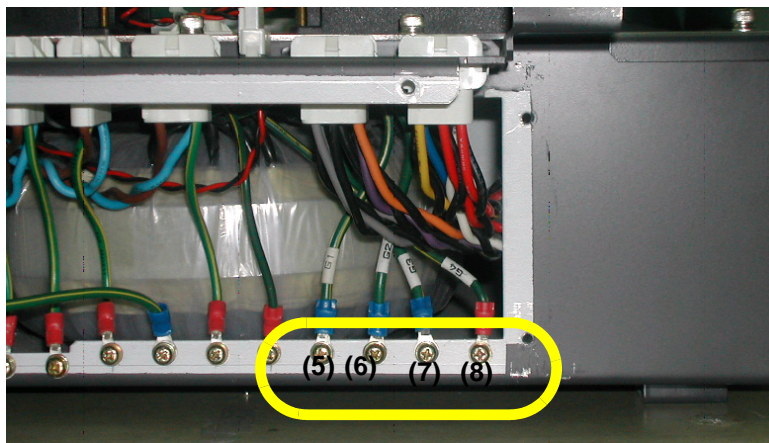

**Figure 8-190 Disconnecting 4 connectors**
- 3.) Disconnect four (4) connectors (1-4, J3, J6, J9, J11). Refer to Figure 8-190.